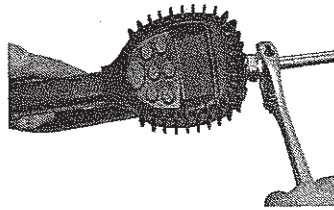

Figure 6: Tighten nozzle with wrench
3. Screw it in tightly with an open-ended, adjustable, wrench. See *Figure 6*.